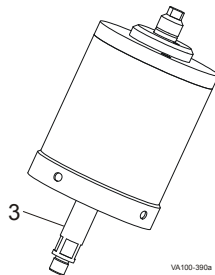

Figure 37: Pull Lower Stem
2. Pull the lower stem (Figure 37, item 3) to remove the caged spring assembly from the actuator cylinder.
3. Using a 5/8-inch wrench on the lower stem (Figure 37, item 3) and a 3/8-inch wrench on the upper stem (item 2), unscrew and remove the two actuator stem halves.